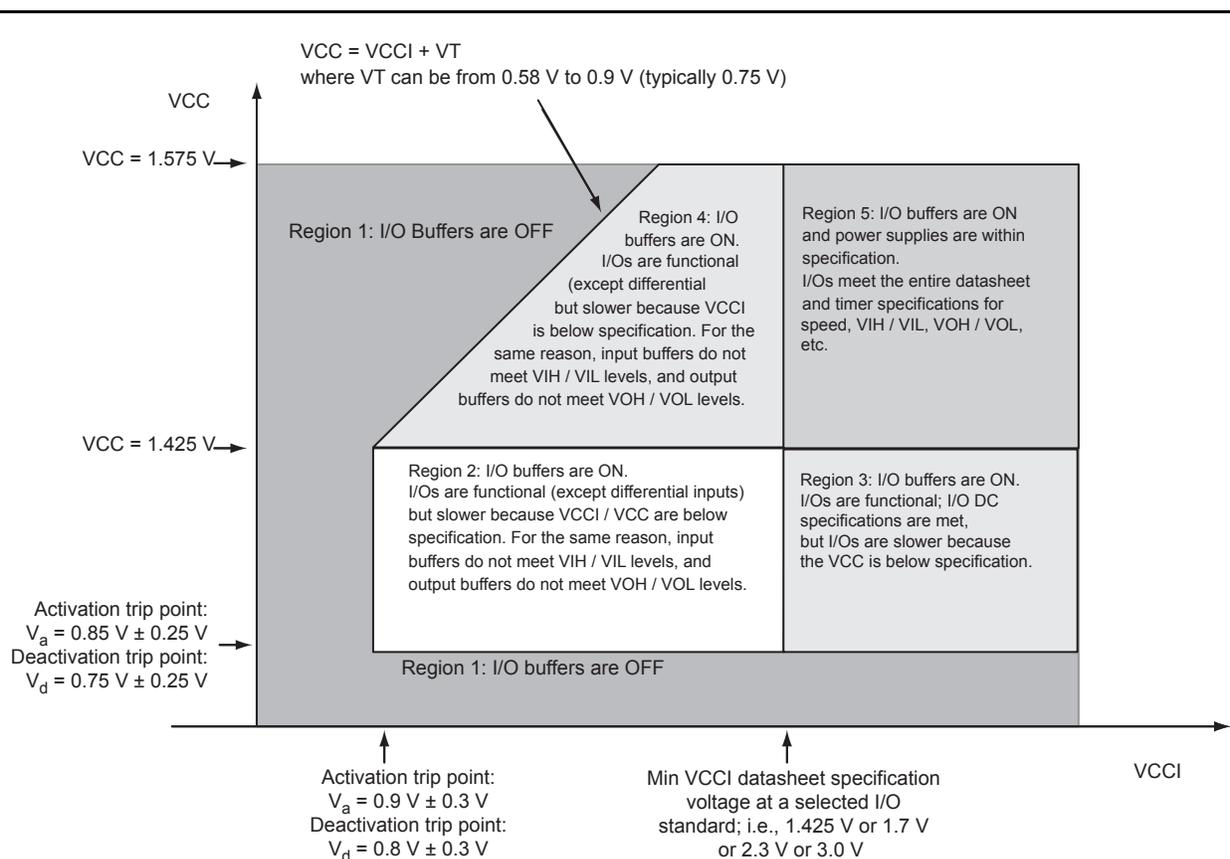
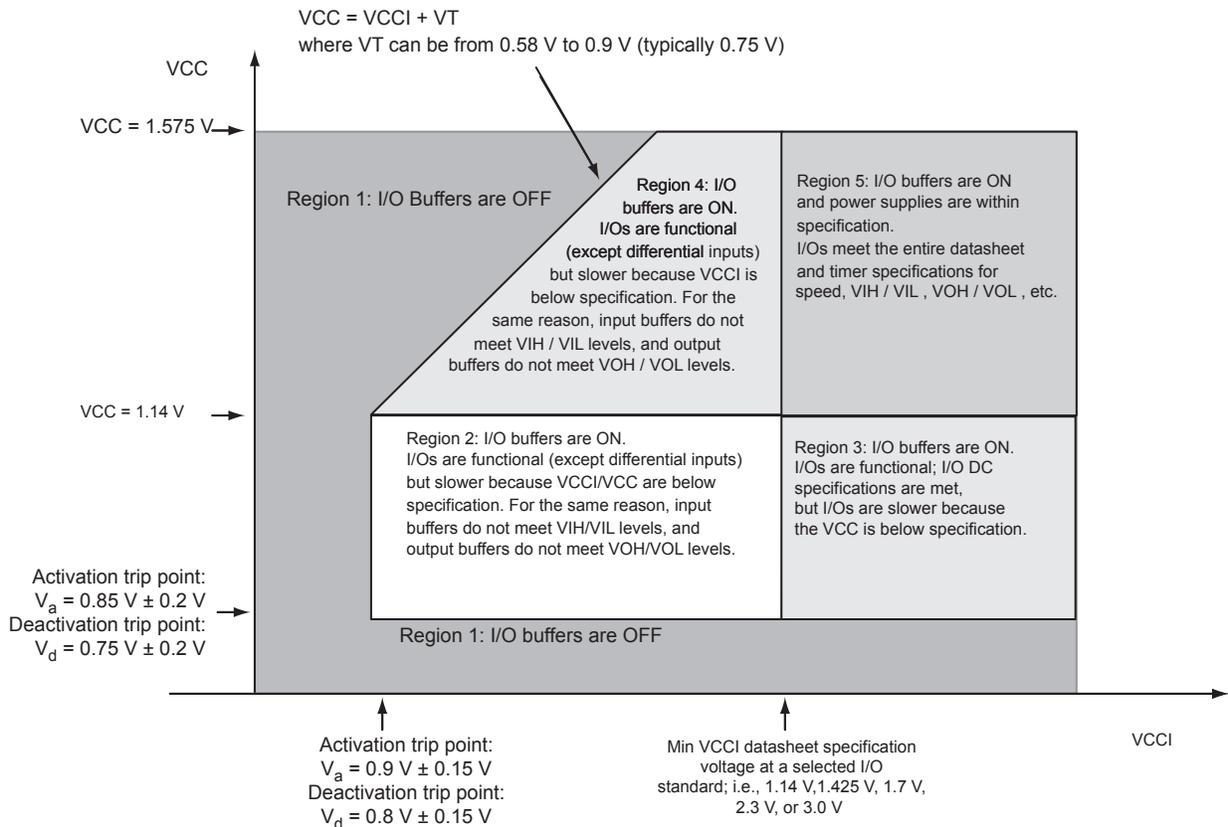

Figure 2-1 • V5 Devices – I/O State as a Function of VCCI and VCC Voltage Levels
Figure 2-2 • V2 Devices – I/O State as a Function of VCCI and VCC Voltage Levels
Sophisticated power-up management circuitry is designed into every ProASIC3 device. These circuits ensure easy transition from the powered-off state to the powered-up state of the device. The many different supplies can power up in any sequence with minimized current spikes or surges. In addition, the I/O will be in a known state through the power-up sequence. The basic principle is shown in Figure 2-1 on page 2-4 and Figure 2-2 on page 2-5.
1. VCC and VCCI are above the minimum specified trip points (Figure 2-1 on page 2-4 and Figure 2-2 on page 2-5).
Microsemi recommends using monotonic power supplies or voltage regulators to ensure proper powerup behavior. Power ramp-up should be monotonic at least until VCC and VCCPLX exceed brownout activation levels. The VCC activation level is specified as 1.1 V worst-case (see Figure 2-1 and Figure 2-2 on page 2-5 for more details).